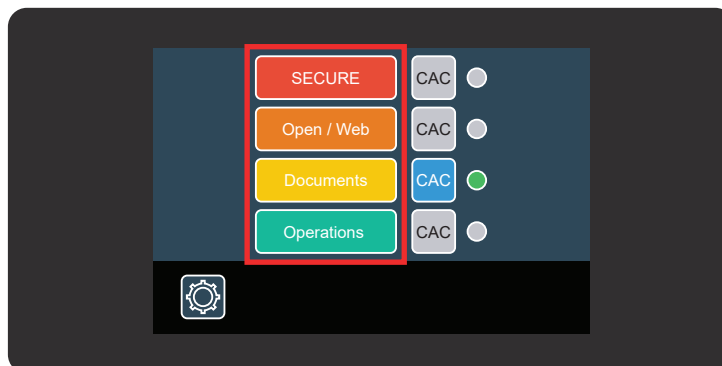

Figure 7. Switching channels
- Switch channels by pressing the name of the computer on the touchscreen. As shown in Figure 7, there are four computers named "Secure," "Open/Web," "Documents," and "Operations".
- A green light on the Touchscreen Remote will indicate which computer is selected. In Figure 7, "Documents" is the selected computer.